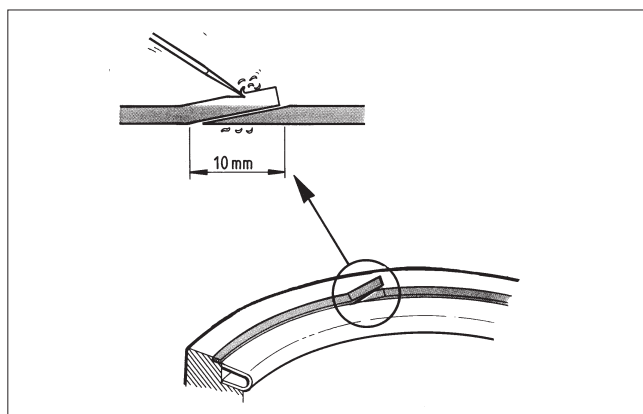

Fig. 13 Mounting the body seal
- Check the position between the seat ring and the disc. The valve closes clockwise (see Fig. 13).